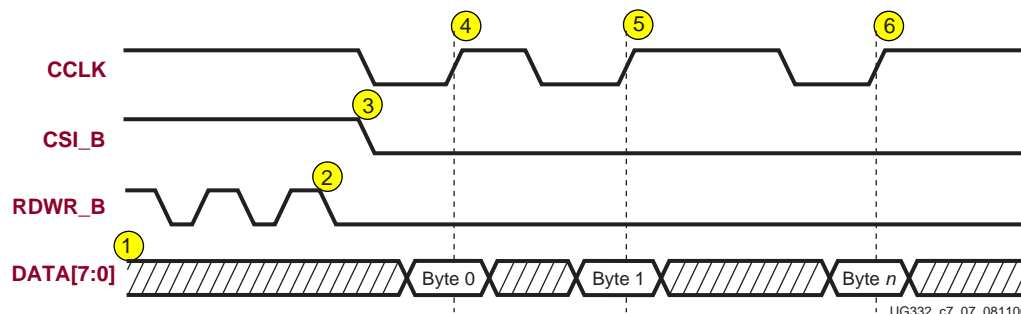

Figure 7-7: Non-Continuous SelectMAP Data Loading with Controlled CCLK
2. Pause **CCLK**, shown in Figure 7-7 and described in “Pausing CCLK,” page 180.
The following numbered items correspond to the markers provided in Figure 7-7.